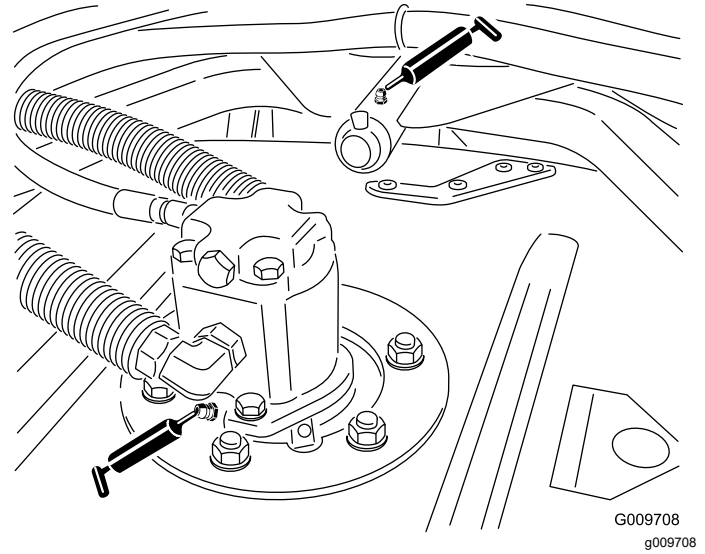

Figure 78
- Cutting-unit spindle-shaft bearings (2 per cutting unit) as shown in Figure 78
- Cutting-unit carrier-arm bushings (1 per cutting unit) as shown in Figure 78